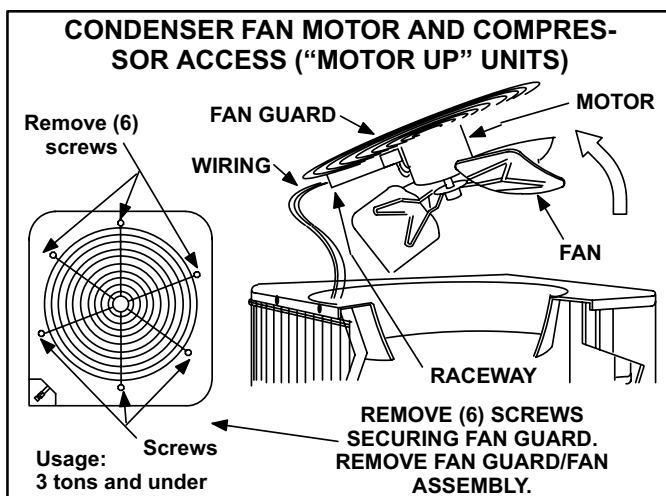

FIGURE 7
Two different mounting arrangements are used (fan motor up and fan up) see figures 7 and 8.
Access to the condenser fan motor on all units is gained by removing the six (6) screws securing the fan guard. See figures 7 and 8.